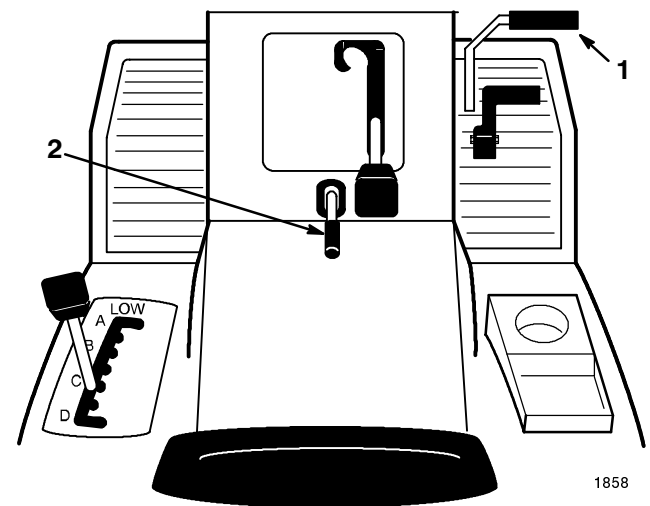

Figure 2
1. Push the brake pedal (Fig. 2) down and hold it in the depressed position.
2. Lift the parking brake lever (Fig. 2) up and gradually take your foot off the brake pedal. The brake pedal should stay in the depressed (locked) position.
1. Push down on the brake pedal (Fig. 2). The parking brake lever should release.